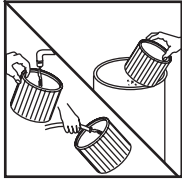

FIGURE 25, 26
36. To clean the cartridge filter shake or brush off excess dirt or rinse (from the inside of the filter) with water, dry completely (approximately 24 hours) and re-install. **FIGURE 25, 26.** **Note:** If the filter has been used for wet pick up, it must be cleaned and dried before using for dry pick up.